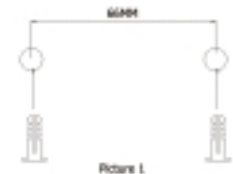

Fig. 3
3. Drill two holes, as shown in Fig.3, and make sure that they are located on one horizontal line. Using building dowels and wood screws, secure bracket C on the wall.